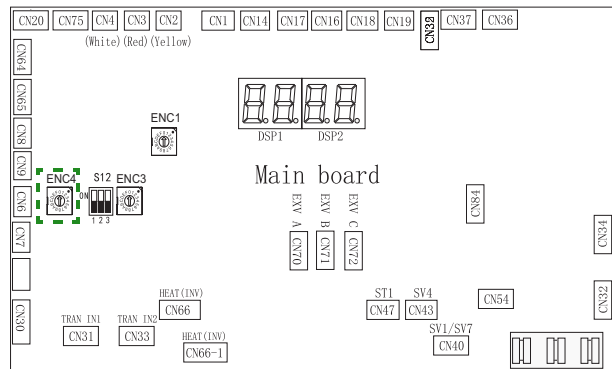

Fig. 4 —Heat Pump ENC4
3. Mount the interface to the surface according to allowed orientations shown in Figure 4.
3. For larger heat pump systems with dual or triple modules on a refrigerant system, wire X/Y daisy chain only to the Header outdoor unit of each refrigerant system. See Figure 4.